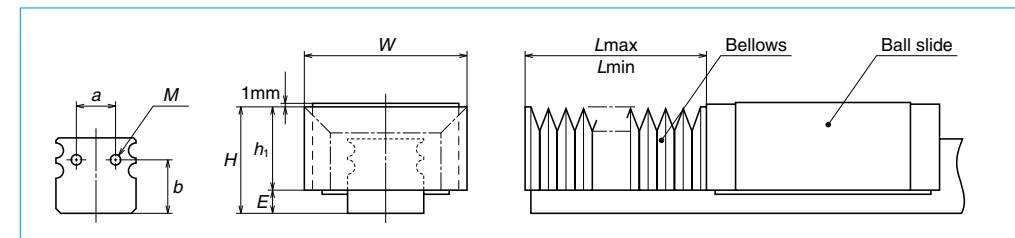

Fig. II-5•10
② LY Series
*** Installation in the ball slide (Fig. II-5•11)**